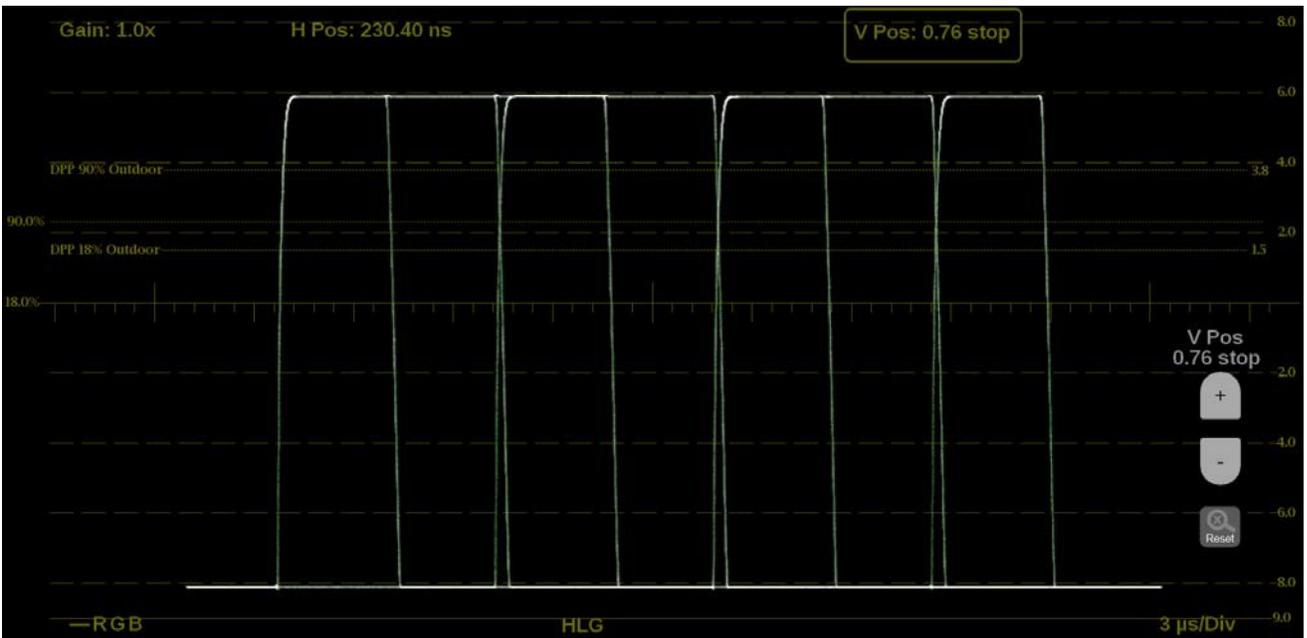

Figure 195: Stop Display on-screen tools – vertical position
2. Select the **V Pos** button to allow adjustment of the vertical trace. (See Figure 195.)